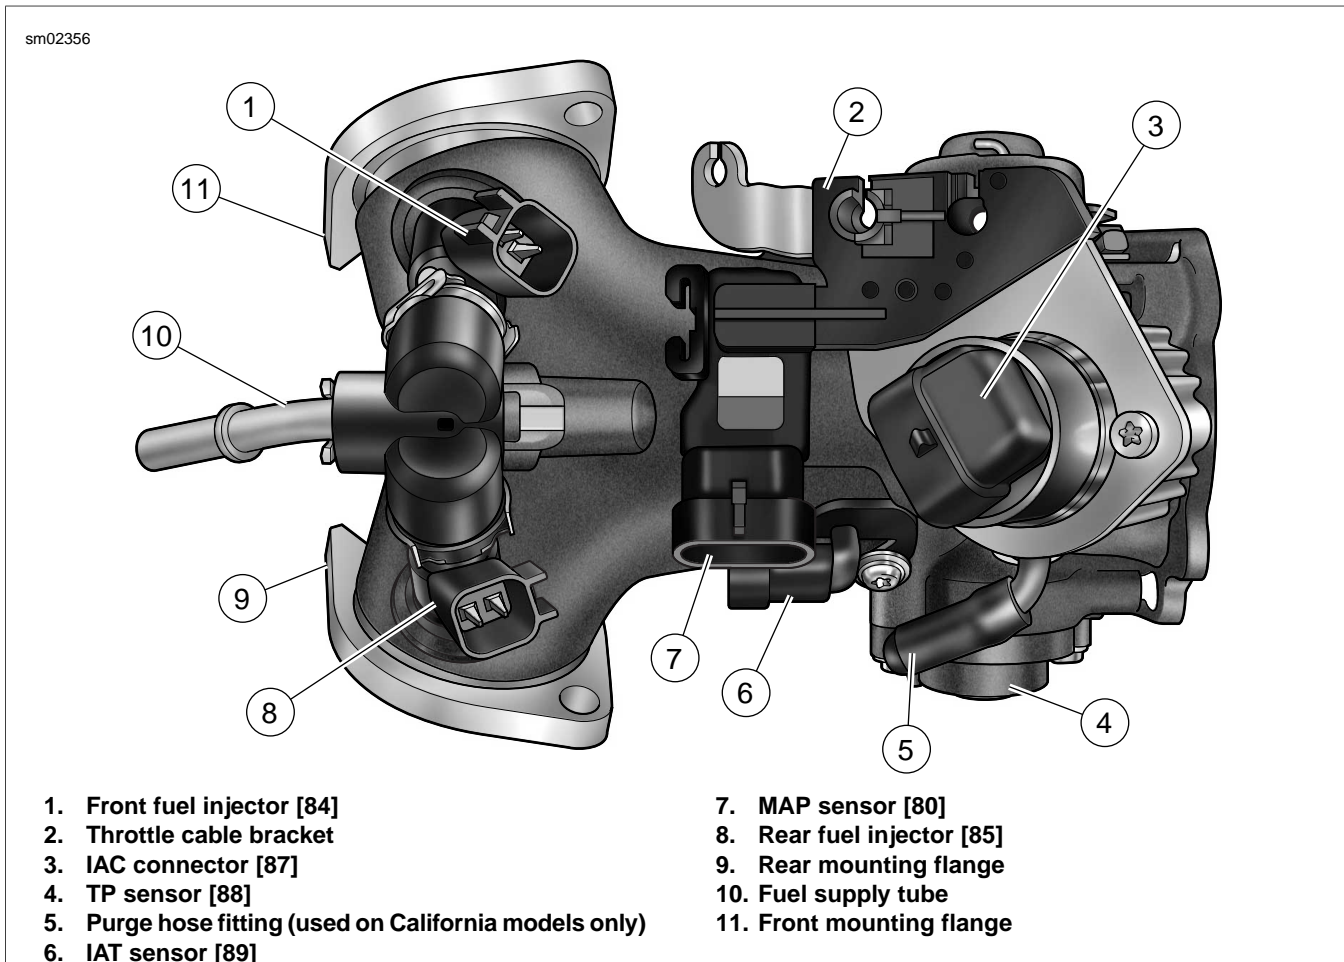

Figure 4-17. Induction Module
3. See Figure 4-17. Pull purge hose from fitting (5) at top of induction module (California models only).
5. See Figure 4-17. Remove idle air control connector (3) [87] and manifold absolute pressure sensor connector (7) [80].
6. Remove front fuel injector connector (1) [84] and rear fuel injector connector (8) [85].
7. Remove throttle position sensor connector (4) [88] and intake air temperature sensor connector (6) [89].
1. See Figure 4-17. Place a **new** seal in each mounting flange (9, 11) with the beveled side in against the counter-bore.
5. See Figure 4-17. On California models, attach purge hose to fitting (5) on throttle body.
6. Connect front (1) and rear (8) fuel injector connectors, IAC (3) connector, MAP sensor (7) connector, TP sensor (4) connector and IAT (6) sensor connector.